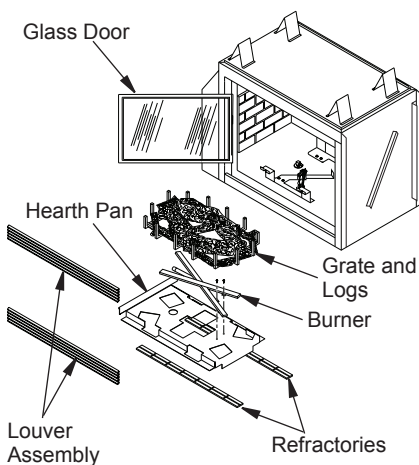

Figure 52 - Burner Removal
2. Carefully remove log set intact and set aside (see Figure 52).